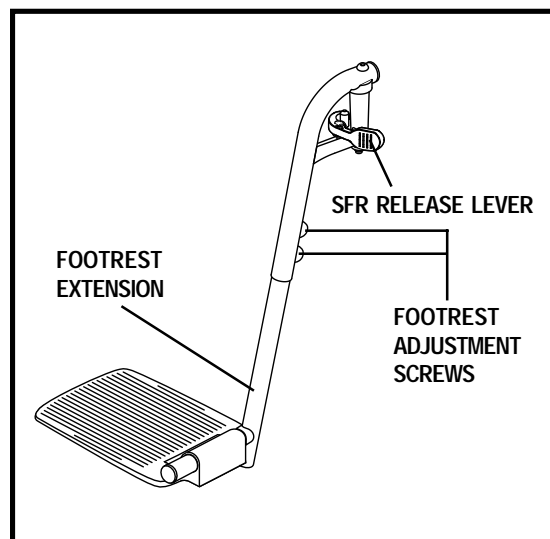

Figure 17. Swing-away Footrests
1. Push in the release lever. See figure 17.
1. Remove the two adjustment screws from the side of each footrest. See figure 17.